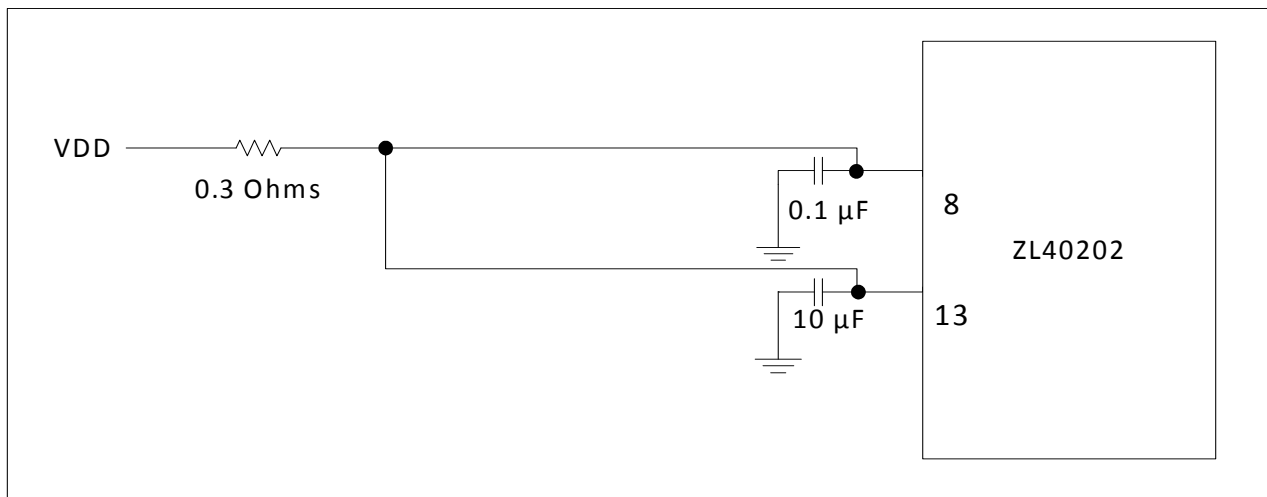

Figure 20 - Decoupling Connections for Power Pins
For optimal jitter performance, the device should be isolated from the power planes connected to its power supply pins as shown in Figure 20.
- a 0.3 ohm resistor is recommended for the filter shown in Figure 20
The power nets in Figure 20 can be implemented either as a plane island or routed power topology without changing the overall jitter performance of the device.